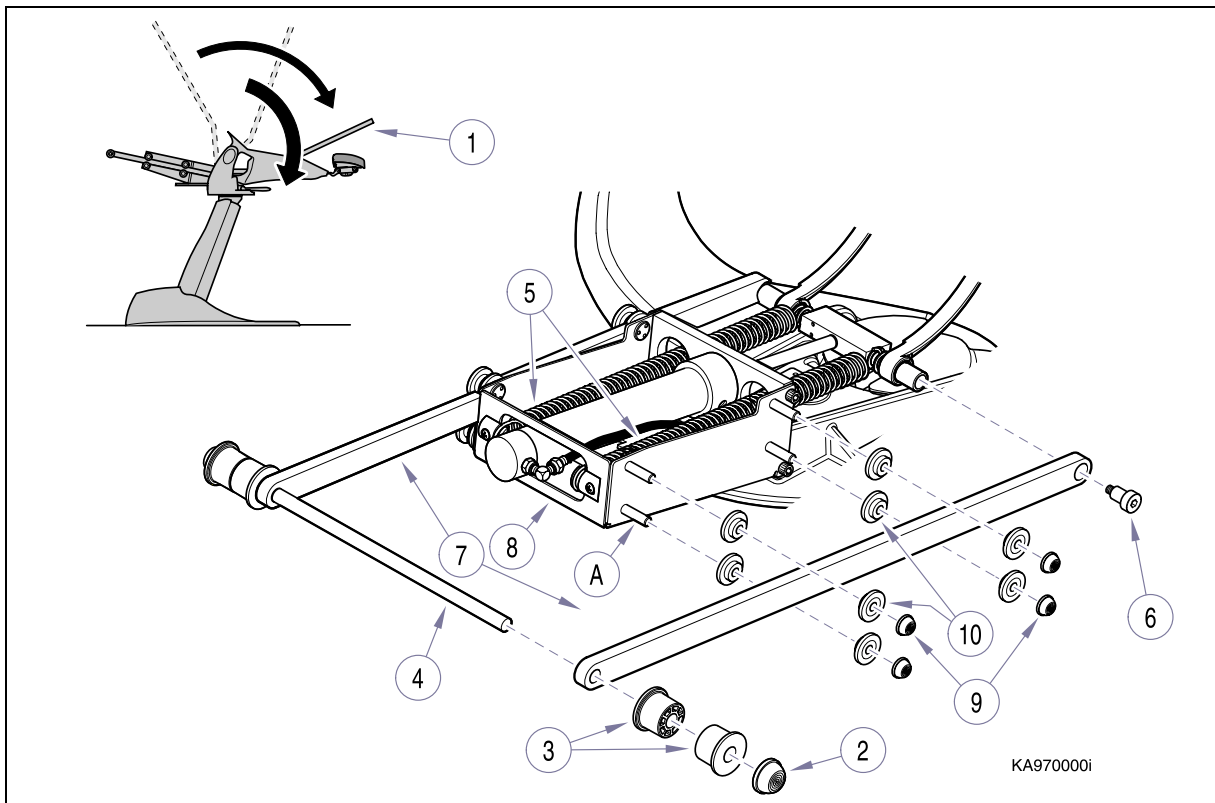

Figure 4-25. Hydroglide Assembly.
- (2) Unplug chair power cord.
(3) Remove upholstery (refer to para 4.2).
- (4) Swing chair seat frame (1, Fig. 4-25) up.